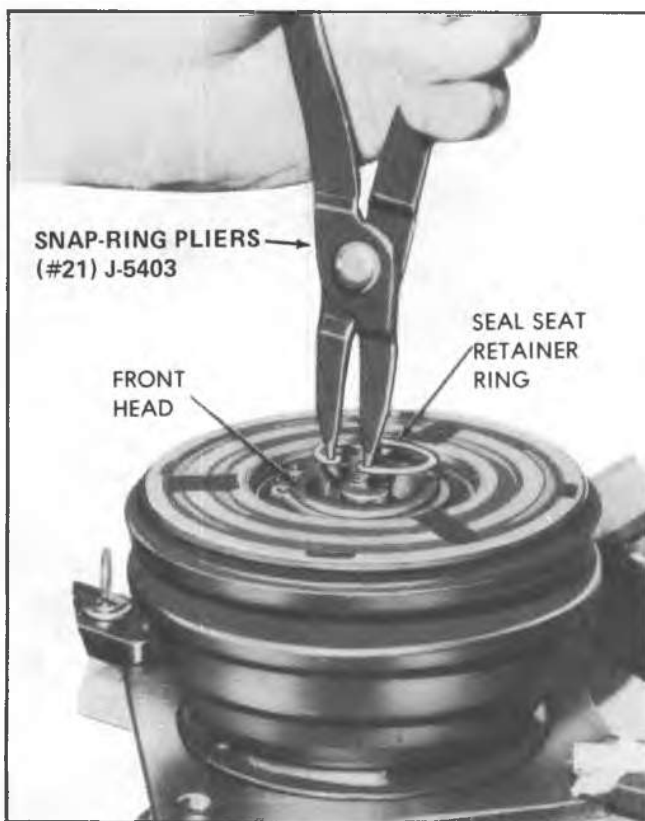
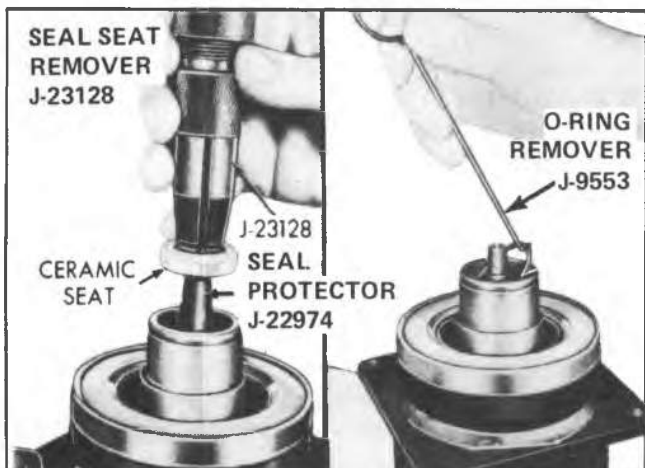

Fig. 18—Removing or Installing Shaft Seal Seat Retaining Ring
Fig. 19—Removing Shaft Seal Seat and O-Ring
2. Pry out the sleeve retainer and remove the absorbent sleeve. Remove the shaft seal seat retaining ring, using Snap-Ring Pliers J-5403 (#21). See Fig. 18.
4. Place Seal Protector J-22974 over the end of the shaft to prevent chipping the ceramic seat. Fully engage the knurled tangs of Seal Seat Remover-Installer J-23128 into the recessed portion of the seal seat by turning the handle **clockwise**. Lift the seat from the compressor with a rotary motion (Fig. 19).
6. Remove the seal seat O-ring from the compressor neck using O-Ring Remover J-9533 (See Fig. 19).
4. Coat the seal face of the new seal seat with clean 525 viscosity refrigerant oil. Mount the seal seat on Seal Seat Remover-Installer J-23128 and install it in the compressor neck, taking care not to dislodge the seal seat O-ring and being sure the seal seat makes a good seal with the O-ring. Remove Seal Protector J-22974 from the end of the shaft (see Fig. 19).
5. Install the new seal seat retainer ring **with its flat side against the seal seat**, using Snap-Ring Pliers J-5403 (#21). See Fig. 18. Use the sleeve from Seal Seat Remover-Installer J-23128 (Fig. 19) to press in on the seal seat retainer ring so that it snaps into its groove.